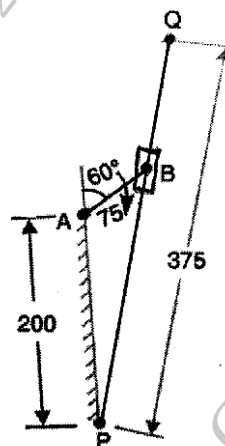

Fig. 3
7. The driving crank AB of the quick return mechanism as shown in Fig. 3, rotates at a uniform speed of 200 rpm. Find the velocity and acceleration of the point Q in the position shown, when the crank makes an angle of 60° with the vertical line AP. What is the acceleration of sliding of the block at B along the slotted lever PQ ? [15]